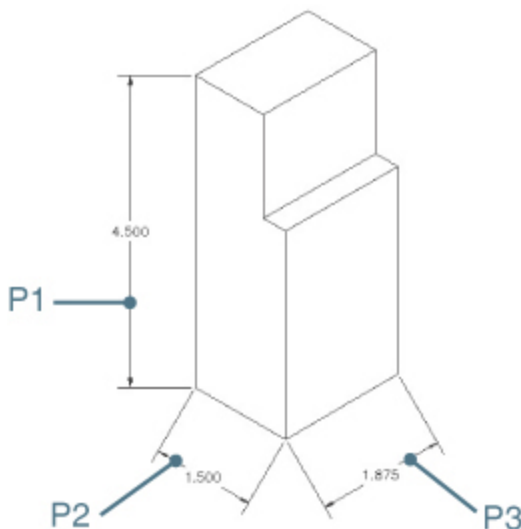

Figure 13-91
- 3 Select the dimensions shown at P1 and P2 in Figure 13-91, and press **<Enter>**. AutoCAD prompts you to *Enter obliquing angle (press ENTER for none):*.
- 5** Select the **Oblique** tool again. Select the dimension shown at P3 in Figure 13-91, and press **<Enter>**.
- 7** Select the **Text Angle** tool from the expanded **Dimensions** panel on the **Annotate** tab of the ribbon. AutoCAD prompts you to *Select dimension:*. Select the dimension text shown at P1 in Figure 13-91.
- 9** Restart the **Text Angle** tool, and select the dimension shown at P2 in Figure 13-91. Enter **30** for the dimension text angle. AutoCAD rotates the dimension text.
- 10** Restart the **Text Angle** tool, and select the dimension shown at P3 in Figure 13-91. Enter **-30** for the dimension text angle. AutoCAD rotates the dimension text.